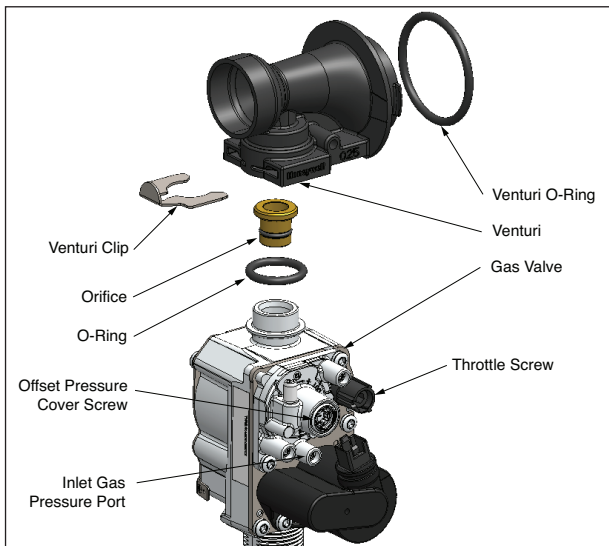
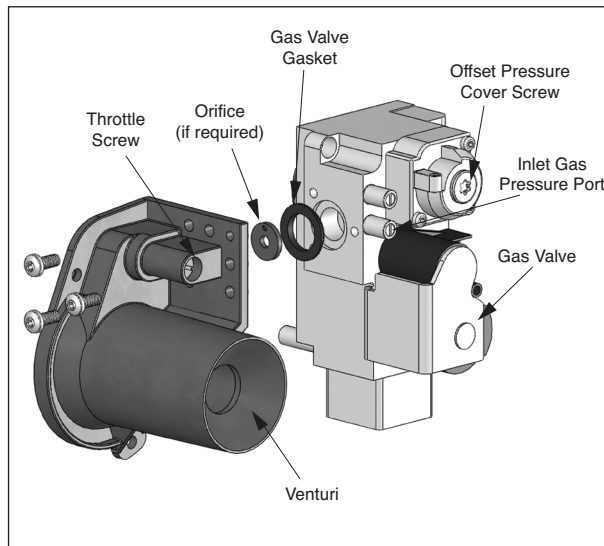
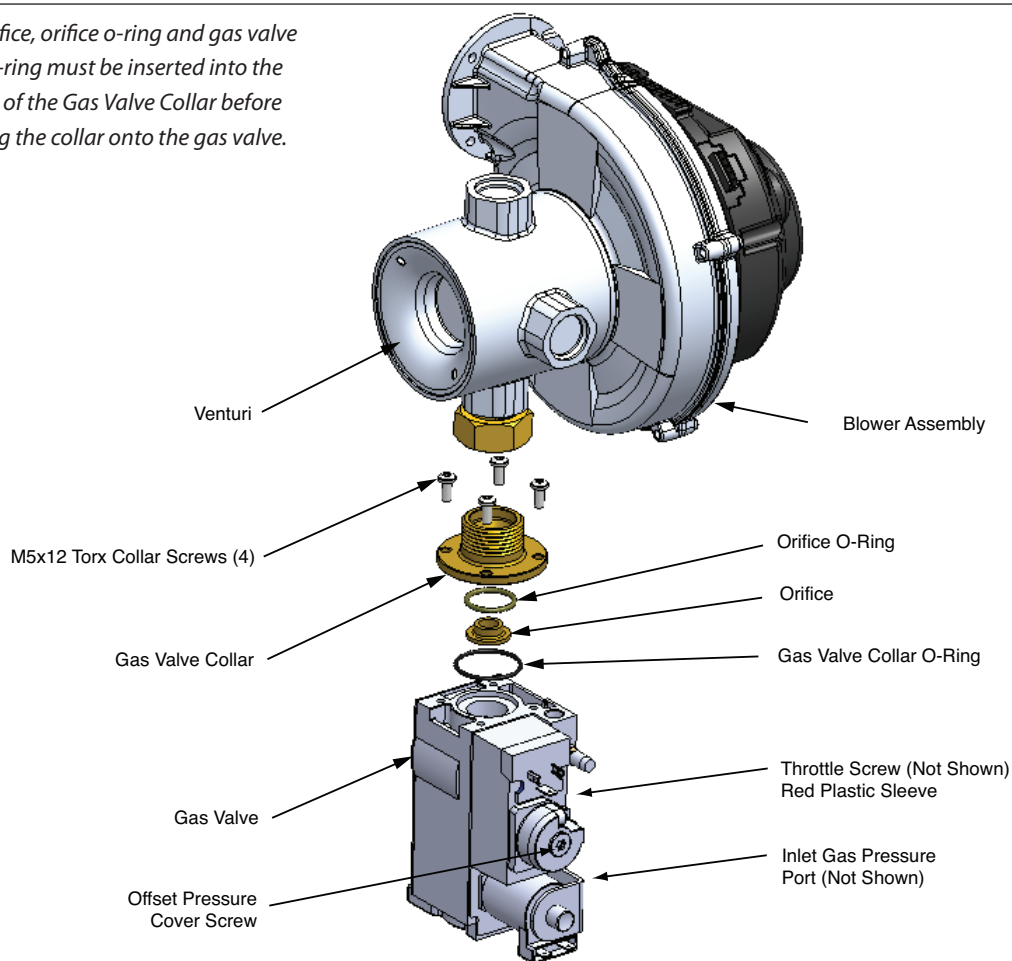

Fig. 16 - Gas Valve / Venturi Assembly - PRESTIGE Solo 80/110
Fig. 17 - Gas Valve / Venturi Assembly - PRESTIGE Solo 155/175/250
Fig. 18 - Gas Valve / Venturi Assembly - PRESTIGE Solo 299/399
- Prior to start up, ensure the unit is set to fire propane. Check the rating label for the type of fuel. Check the gas valve for propane conversion label. If there is a conflict or doubt on the burner set up, remove the gas valve and check for the propane orifice, see Fig. 16, Fig. 17 or Fig. 18 on page 30.